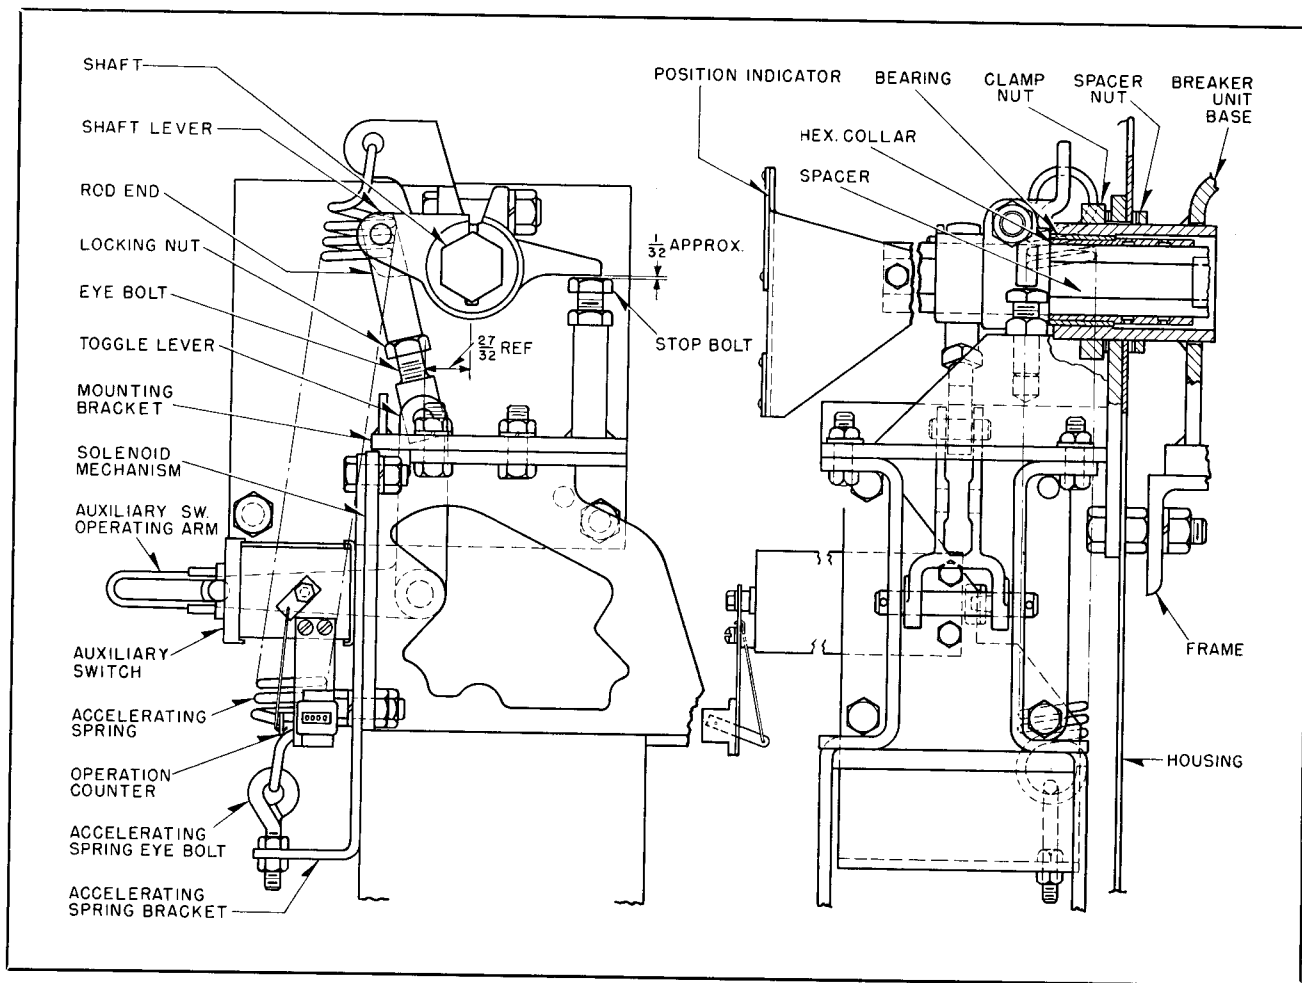

FIG. 10. Toggle Assembly
11. Check the toggle adjustment, see figure 10, to see that, with the solenoid in the closed and latched position, the pin joining the eye bolt and the toggle link is approximately in the position shown, to see that the clearance at the stop bolt is approximately $\frac{1}{32}$ " and to see that the clearance between the stop bolt and the middle lever inside